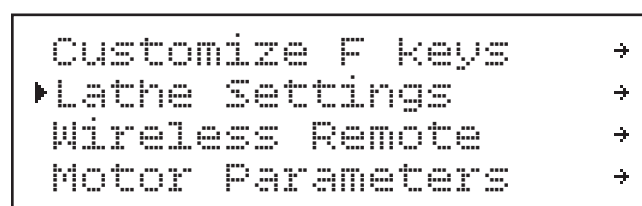

Figure 109. Lathe Settings submenu selected.
1. Press Menu button and use spindle speed dial to scroll down to Lathe Settings submenu, as shown in **Figure 109**.